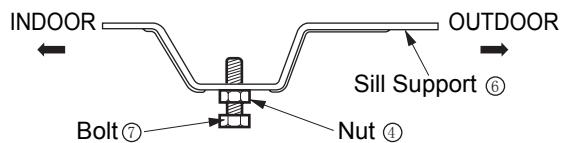

Fig. 3
3. Cut the window sash seal to the proper length. Peel off the backing and attach the Foam-PE to the underside of the window sash. (Fig.3)
3. Loosely assemble the Sill Support⑥ using the parts . (Fig. 3)